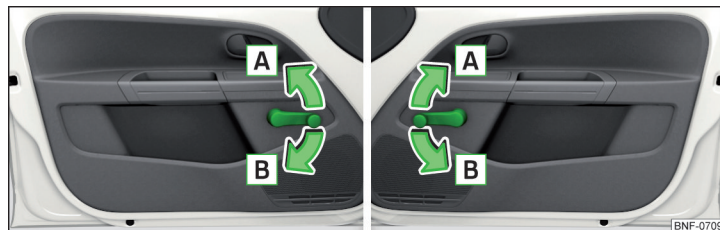

Fig. 35 Window operation: left / right
- To **open**, turn the crank in the direction of arrow **A** » Fig. 35.